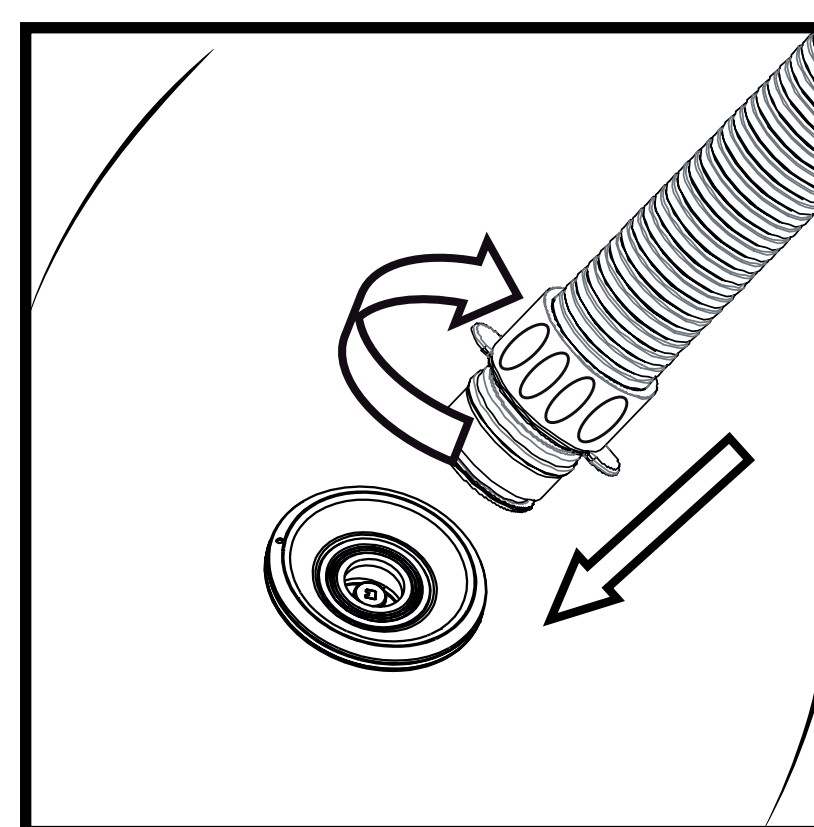

Figure 2.
- Attach the appropriate adapter to the other end of the air hose and turn it clockwise to tighten (step 1, figure 2). Then attach the adapter to the valve of the inflation product (step 2, figure 2).